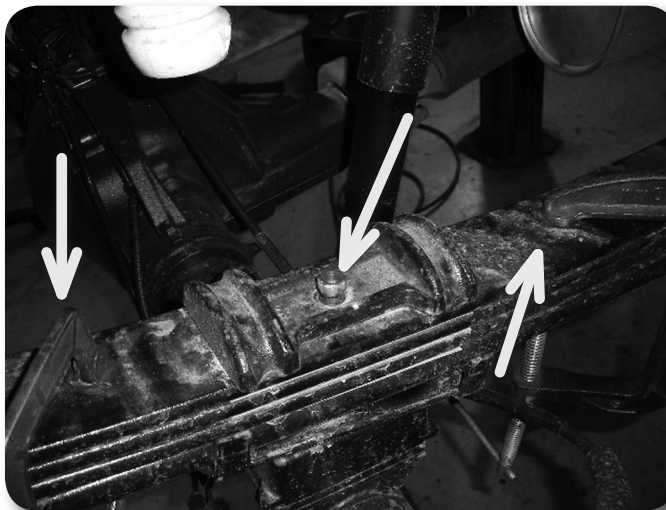

Figure 21
8. Disconnect the passenger's side spring u-bolts. Using two C-Clamps, clamp the leaf spring on each side of the top u-bolt plate. Remove the center pin nut and remove the u-bolt plate. **Figure 21**